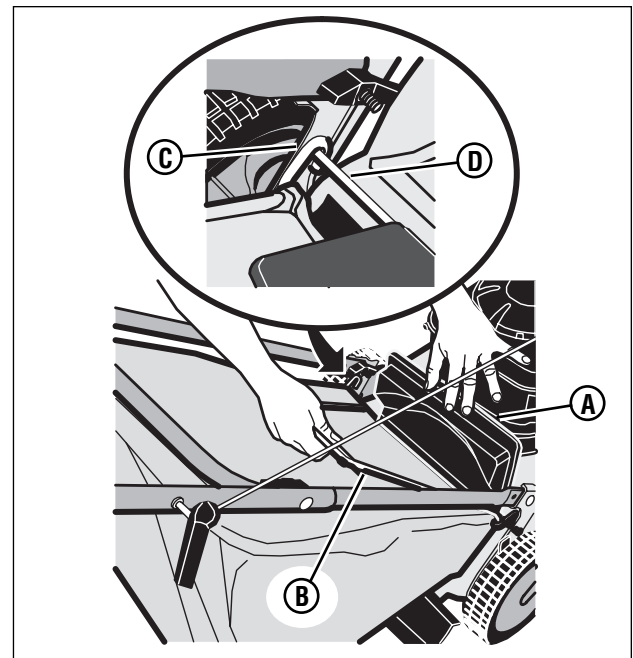

Figure 7: Mounting the grass bag
1. To mount the grass bag on the mower, raise the rear door **(A, Figure 7)**. Holding the grass bag by the handle **(B)**, mount the hooks **(C)** on either end of the grass bag frame assembly onto the rear door pivot rod **(D)**. Lower the grass bag against the rear of the mower. Lower the rear door.